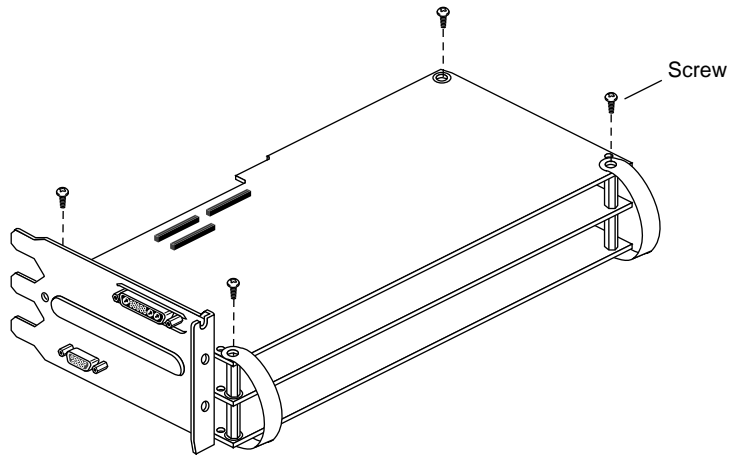

Figure 2-11 Removing Graphics Board Set Screws
2. If you have a high IMPACT or Maximum IMPACT graphics board set, remove the four screws from the corners. See Figure 2-11.